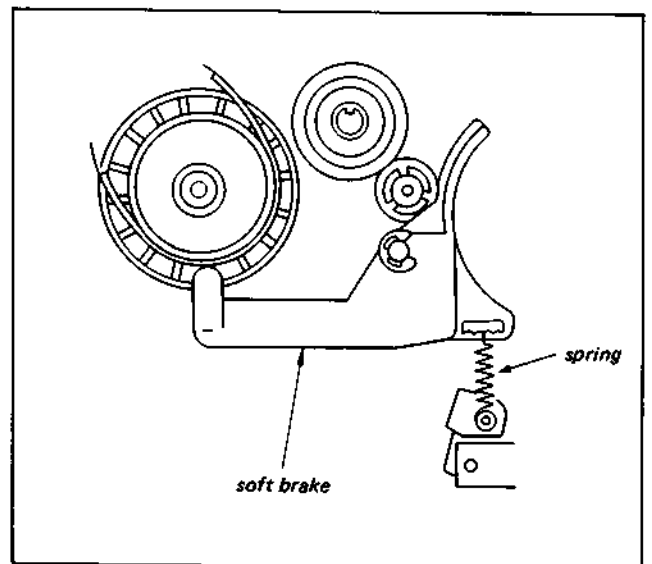

Fig. 3-48. Check and adjustment of soft brake torque
- 5) If the specifications are not met, change the position of the spring on the soft brake arm to adjust, and perform steps 2, 3, and 4 again. (See Fig. 3-48) (One change of the spring's position will change the cause a change of about 2 g.cm.)